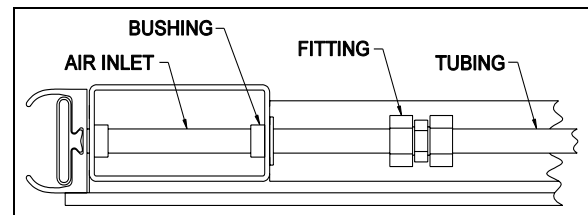

FIGURE 31: REAR SLIDE-OUT INFLATABLE SEAL AIR INLET
2. Unplug the tubing from the inflatable seal air inlet (FIGURE 31). Keep the bushing.
15. Replace the bushing and plug the pneumatic tubing on the inflatable seal air inlet (FIGURE 31).